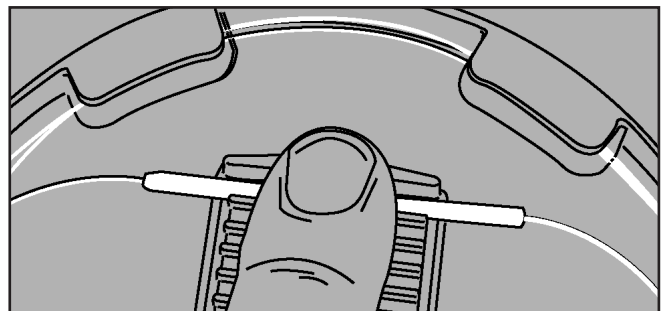

Figure 17
17. Once cool, reposition the splice protector back into the splice block. Carefully store and route the fiber around the splice tray with minimum bending. (Figure 17)